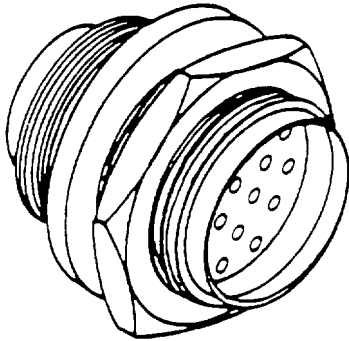

Figure 4. Typical Jam Nut Receptacle
8. **Jam Nut Receptacle.** Jam nut receptacles (Figure 4) are mounted by means of a large nut, or jam nut, threaded onto the connector body. This method requires one hole in the structure. The connector shell normally has provisions for an O-ring seal.